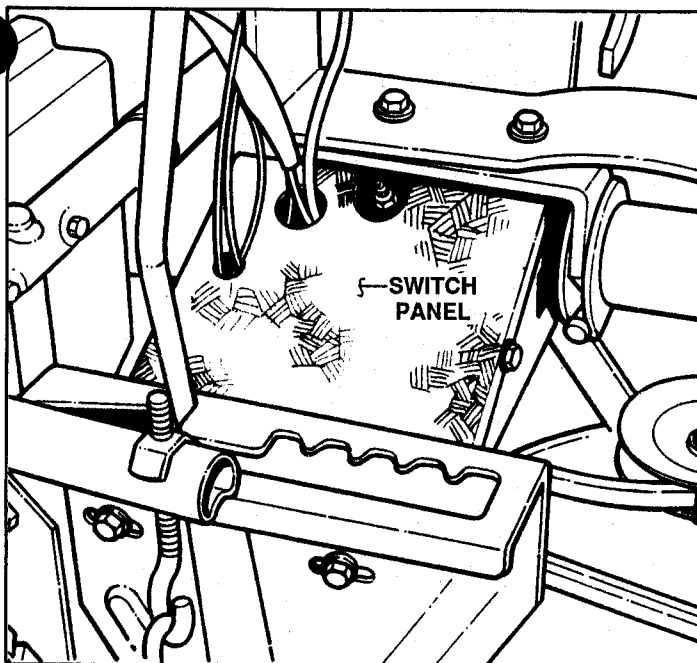

FIGURE 6.16
4. Remove the switch panel. See Figure 6.16.